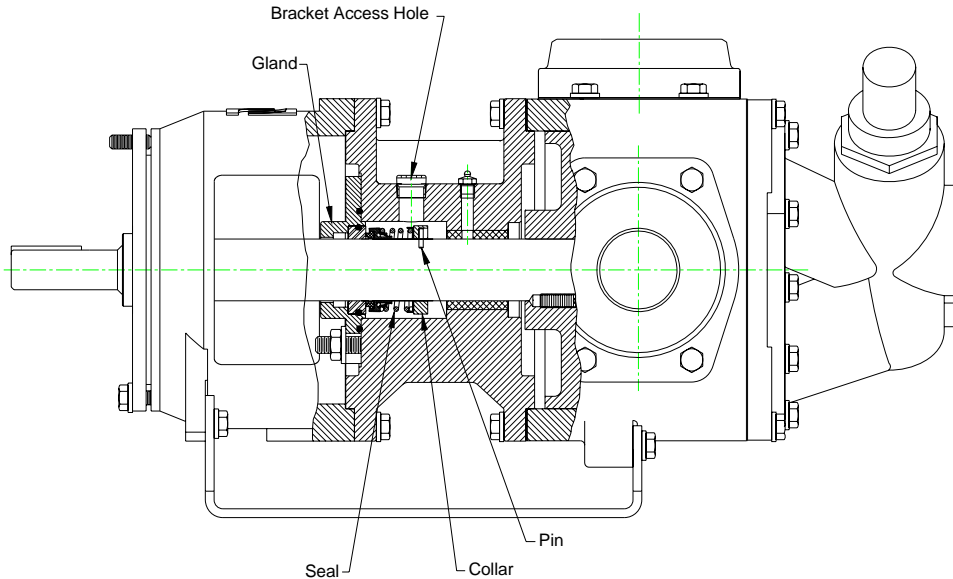

Figure 10 – Single Seal in Out-Board Location
(Out-Board location-see Figure 10):**
C. Pumps with single seal behind the bushing (Out-Board location) See Figure 10.